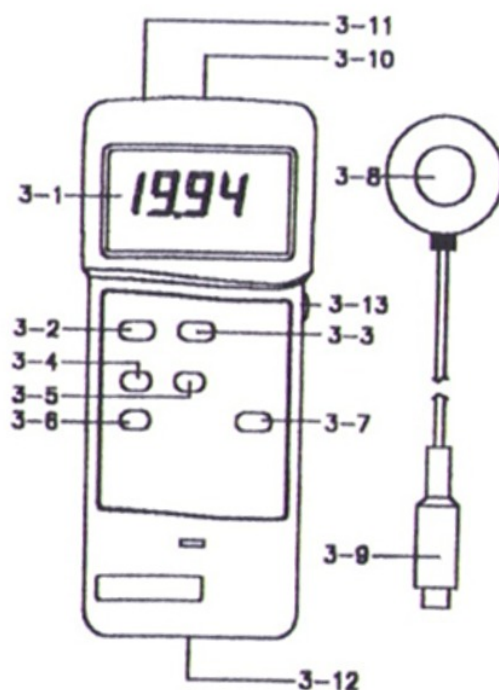

Fig. 1
- 1) Push the " Power Off/On Button " (3-2, Fig. 1) to switch the instrument on.
- 2) Select the max. range using the " Range Switch " (3-7, Fig. 1).
Set " Range Switch " (3-7, Fig. 1) to " 199.9 uW/cm² ".
** Reverse and blank the " UV Sensor " (3-8, Fig. 1) by desktop or any other flat surface.*
** Push the " Zero Button " (3-6, Fig. 1), then display will show zero values.*
- 4) Position the " UV Sensor " (3-8, Fig. 1) directly under the light source. The meter will show the UV value.
** During measurement, pushing the " Data Hold Button " (3-3, Fig. 1) will hold the display values & the LCD will show the " D.H " symbol.*
** The DATA RECORD function displays the maximum and minimum readings. To start the DATA RECORD function, press the " Record Button " (3-4, Fig. 1) once. "REC" marker will appear on the LCD display.*
- a) Push the " Recall Button " (3-5, Fig. 1) once, then the " Max " symbol with the maximum values recorded will appear on the LCD display.
- c) To de – activate the Data Record function, Press the " Record Button " (3–4, Fig. 1) once again. All associated annunciators will disappear from the display.
To de-activate this feature, Select the memory record function during measurement, by pressing the " Record Button " (3-4, Fig.1).
The instrument features an RS232 output via 3.5 mm Terminal (3-11, Fig. 1).
- 2) Push the " Zero Button " (3-6, Fig. 1) continuously. Power ON until the display show Fig. 2 then release the " Zero Button ".
- 2) Slide the " Battery Cover " (3–12, Fig. 1) away from the instrument and remove the battery.